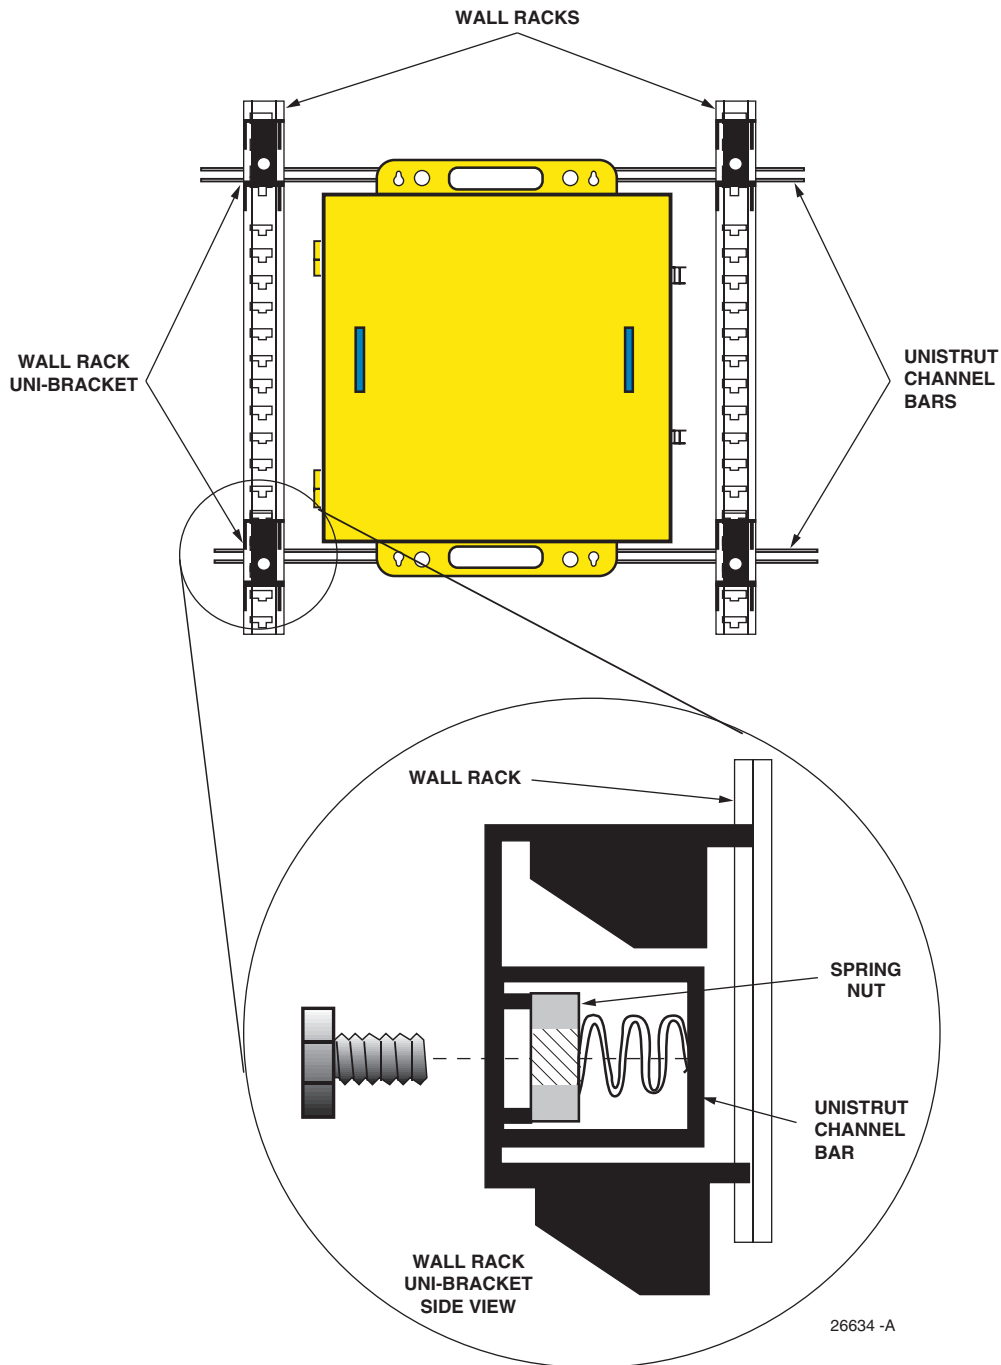

Figure 4. Unistrut Mounted FEC-12
Refer to Figure 4 and the following instructions to mount the cabinet:
8. Prepare a ground lead from central office ground to the FEC. Use #6 AWG wire and attach to a two hole crimp type lug (wire and lug not provided). Connect to the ground posts at the bottom of the FEC. Refer to Figure 4 on Page 6.